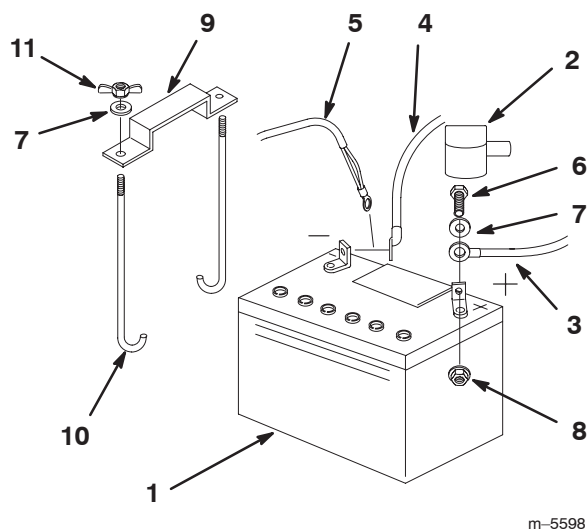

Figure 63
1. Position the battery in the tray with the terminal posts toward the engine (Fig. 63).
4. Secure the cables with 2 bolts (1/4 x 3/4 inch), 2 washers (1/4 inch), and 2 locknuts (1/4 inch) (Fig. 63).
6. Secure the battery with J-bolts, clamp, 2 washers (1/4 inch), and 2 wing nuts (1/4 inch) (Fig. 63).
4. Disconnect the negative battery cable and the ground wire from the negative (–) battery terminal (Fig. 63).
6. Remove the positive (red) battery cable (Fig. 63).
7. Remove both wing nuts (1/4 inch) that secure the battery clamp (Fig. 63).